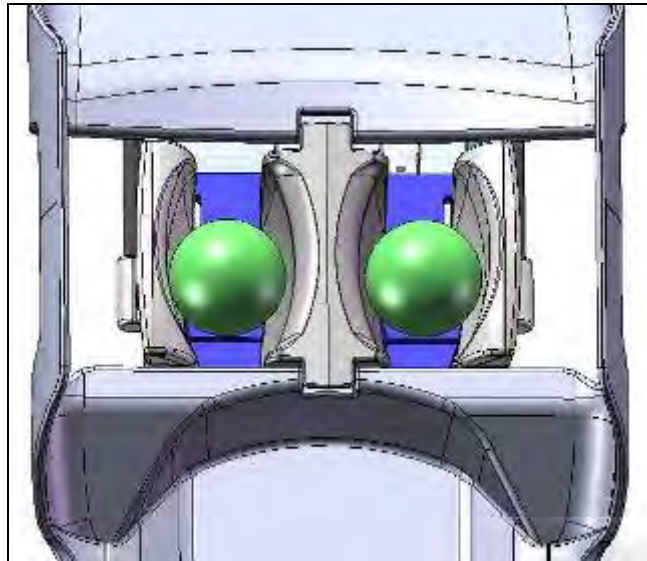

Figure 60 : 16 Channel - Phantom Set-Up
4. Add spherical GE phantoms and move the lateral coils to their lowest position. Adjust lateral coils towards the phantom so that they lightly touch the phantoms as shown in Figure 60.